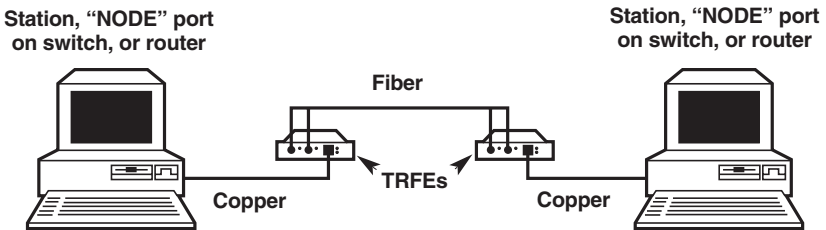
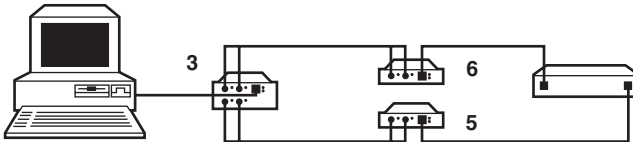

Figure 2-4. Connecting stations.
Figure 3-1. DIP-switch-setting numbers for TRFE applications.
For links between servers, switches, or routers, you can use TRFEs to provide a point-to-point link as shown in Figure 2-4 below.
If you are using Dedicated Token Ring, or even normal Token Ring switches by certain manufacturers, you might not be able to use TRFEs in certain applications. For example, if your switches don't support NODE-to-NODE connections, it will not be possible (even with TRFEs) to make station-to-station links in which both stations are switches, as shown in Figure 2-4 on page 14 and in item #2 in Figure 3-1 on the next page. Consult your switch manual if you're not sure whether your switches will support a given application.
2. Station-to-Station—see Figure 2-4 on page 11